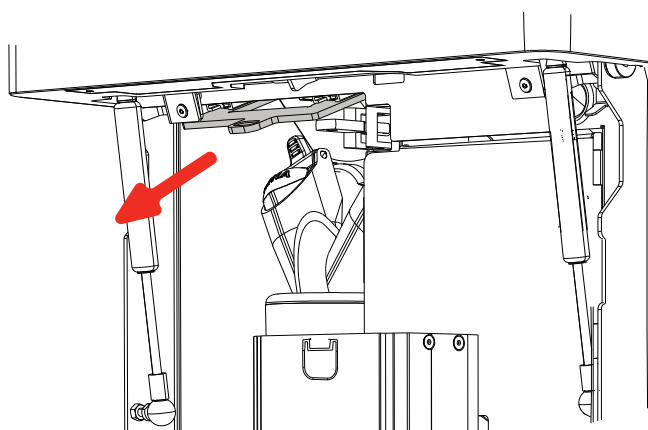

Figure 3-2
3. Pull the tab on the ingredient container lock forward at an angle (see figure 3-2).
7. Push the tab on the ingredient container lock back at an angle to lock the containers (see figure 3-2).